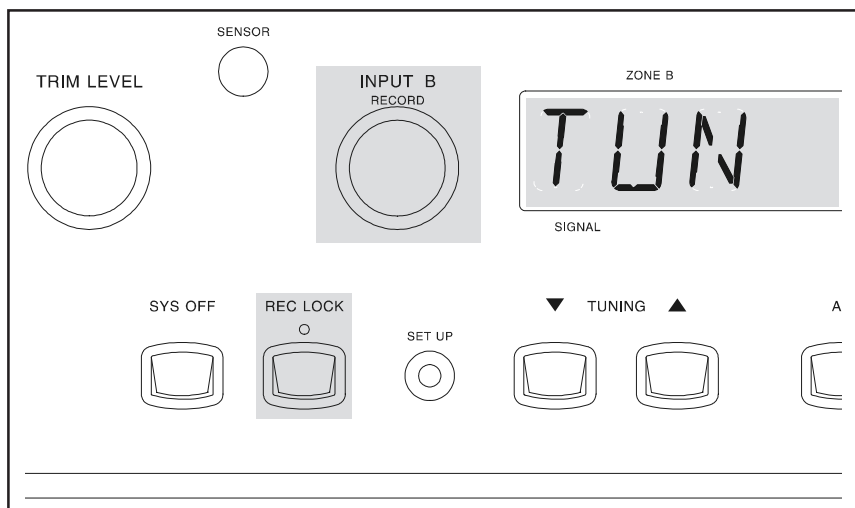

Figure 59
1. Turn ON Zone B by pressing the POWER pushbutton on a keypad, or Remote Control in Zone B. Refer to Figure 59 & 60.
lows a record process to be performed in Zone A without interference. Refer to figure 59.